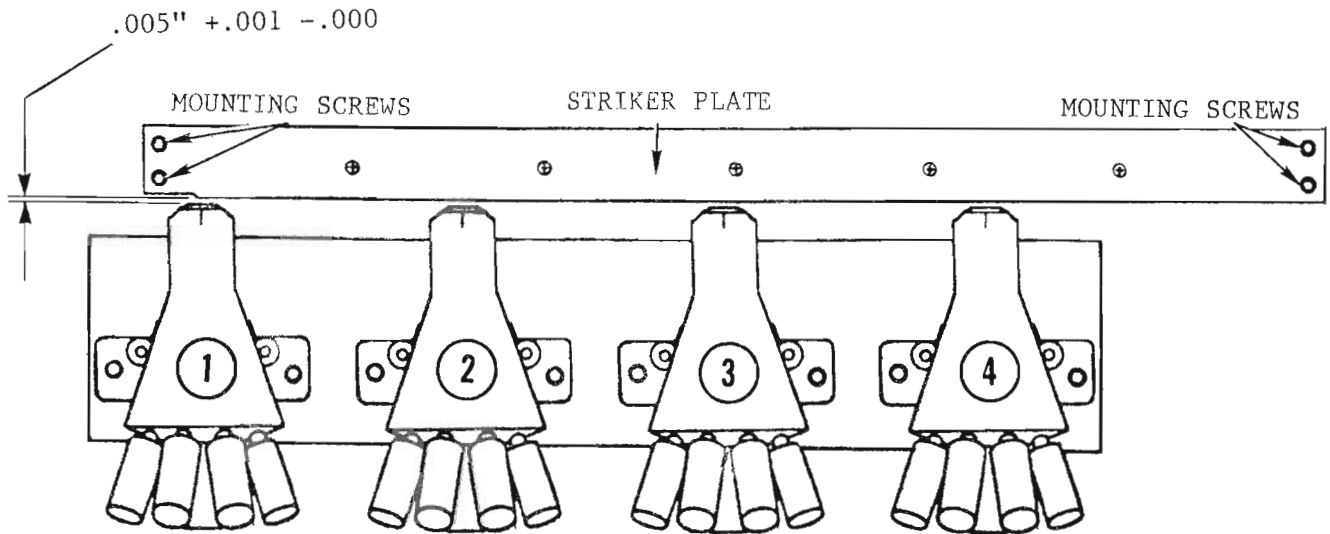

FIGURE 1
5. Using a feeler gauge, measure the gap from print head bearing #1 (leftmost head) to the striker plate. See Figure 1. This gap should be  $.005'' + .001'' - .000''$ . Note the exact measurement and continue with the next step.